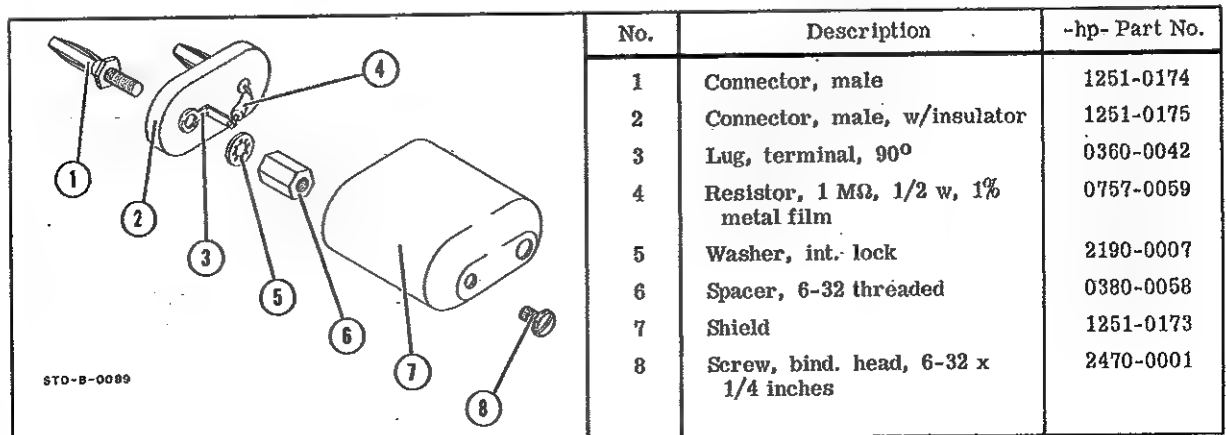

Figure 5-3. Shielded Load for Residual Noise Check
- An AC Voltmeter (-hp- Model 331A) and a 1 MΩ shielded resistor (refer to Figure 5-3) will be required for this check.